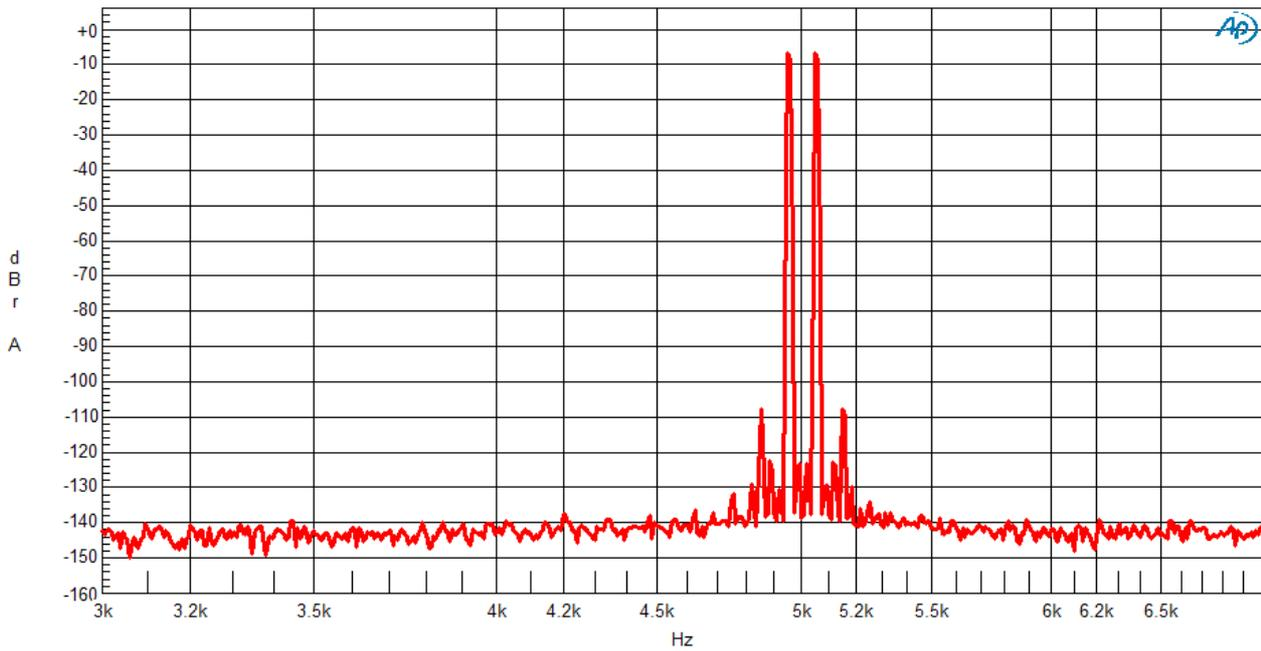

Fig.8 CCIF IMD test, 19+20kHz, -6dBV, 10k load
6. CCIF intermodulation test. Measured with 19kHz and 20kHz, -6dBV signals, 10k load. Result is shown in fig 8.